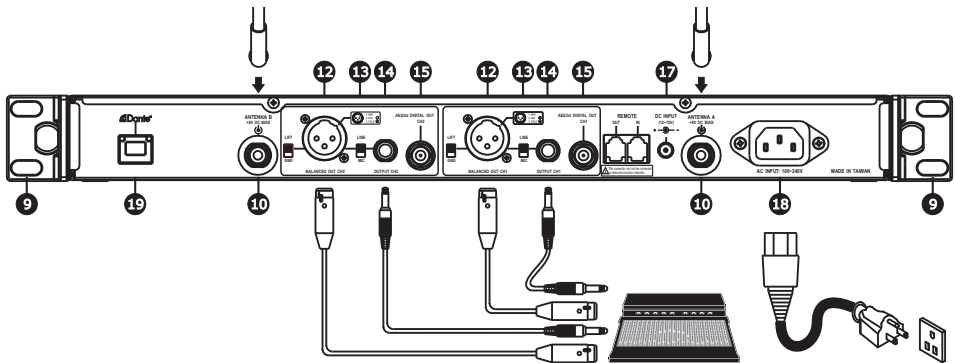

Fig. 2
1. Connect two antennas to each of the antenna connectors ⑩ on the rear panel, Fig. 2.
- (A) Connect the power cord to the receiver optional AC power input socket ⑱ and plug the other end into an AC 100~240V power source, Fig. 2.